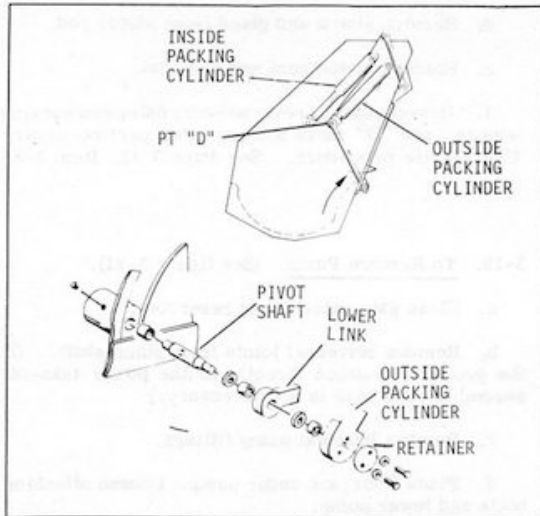

Figure 3-16. Pivot Shaft Removal
- k. Remove pivot shaft connecting the upper and lower packing panels (point "D", figure 3-16).